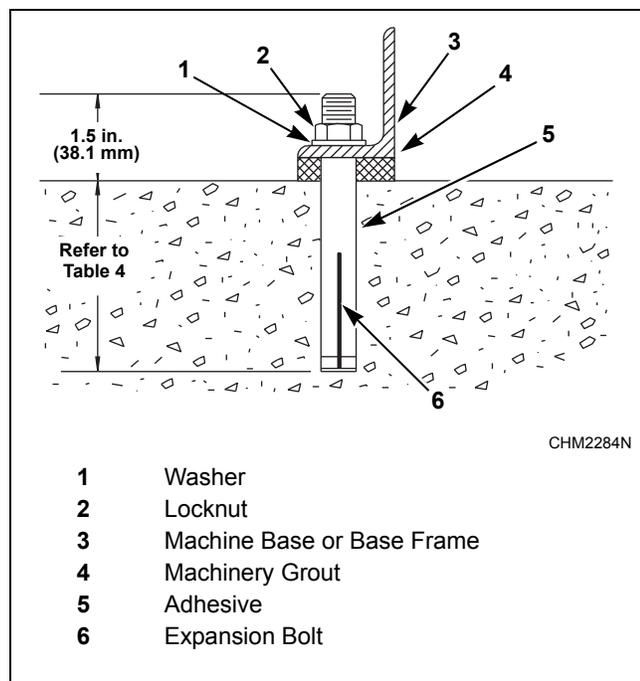

Figure 11
The completed expansion bolt installation is shown in *Figure 11*.
7. Insert bolt until it reaches the bottom of the hole and 1.5 inches (38 mm) of the bolt extends above the base frame. Refer to *Figure 11*.